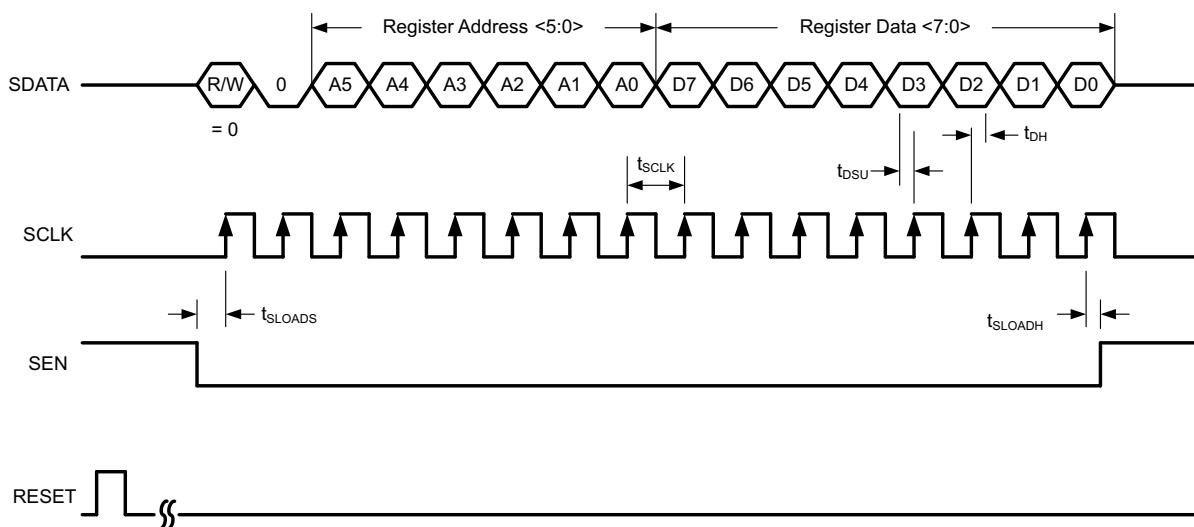

Figure 85. Serial Register Write Timing Diagram
4. Initiate a serial interface cycle specifying the address of the register (A5 to A0) whose content must be written (as shown in Figure 85 and Table 12).